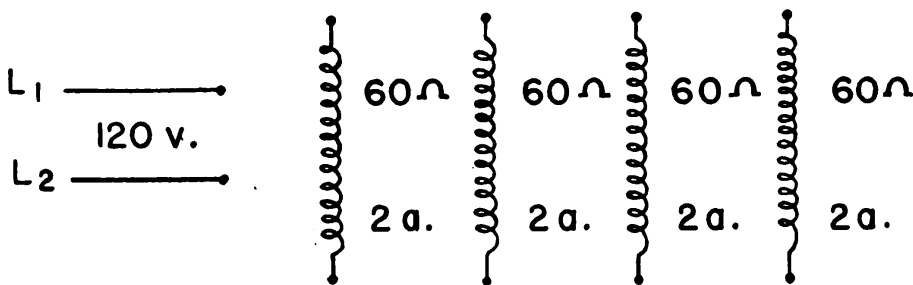

Figure 52.—Example 2.
(1) You would first draw your circuit as in figure 52. Then calculate the voltage required to force 2 amperes through 60 ohms of resistance.